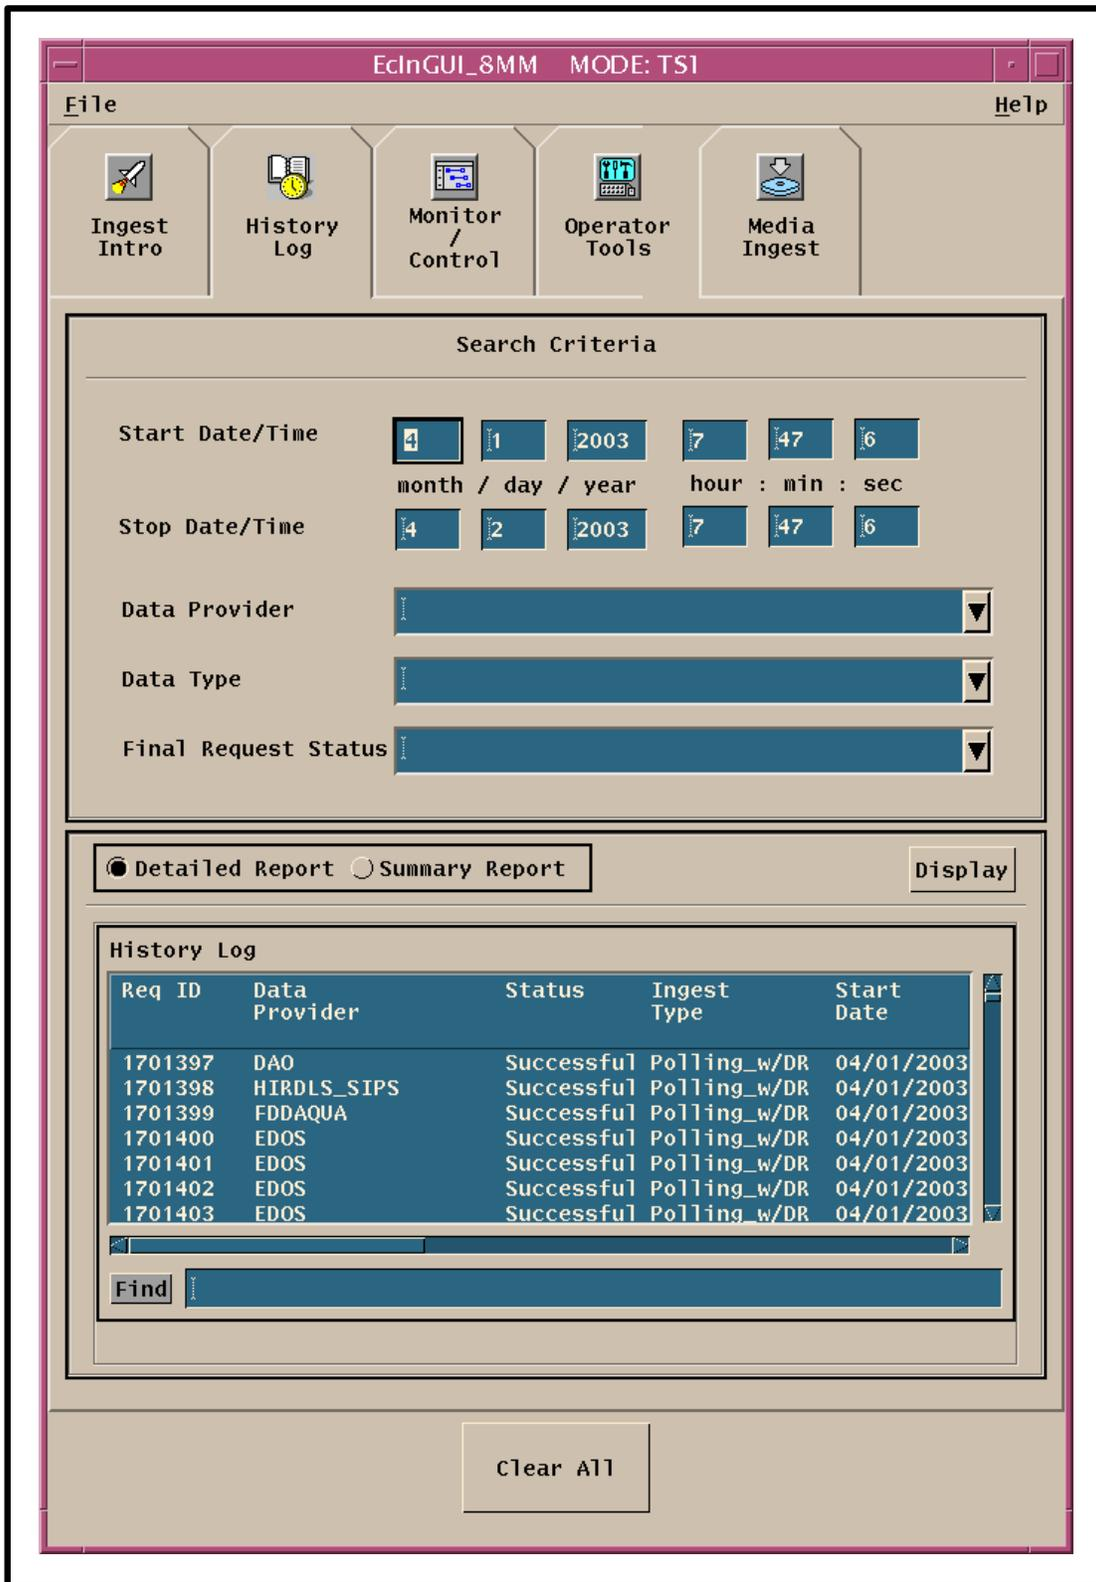

Figure 17. Detailed Report (ECS Ingest GUI History Log)
- The **Detailed Report** (Figure 17) provides the following types of information on each completed ingest request.